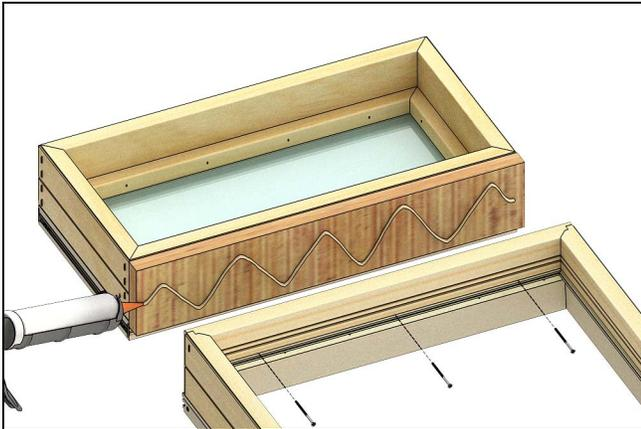

Figure 29
4. Apply adhesive in a wiggly pattern on the LVL or space mull. See Figure 29.